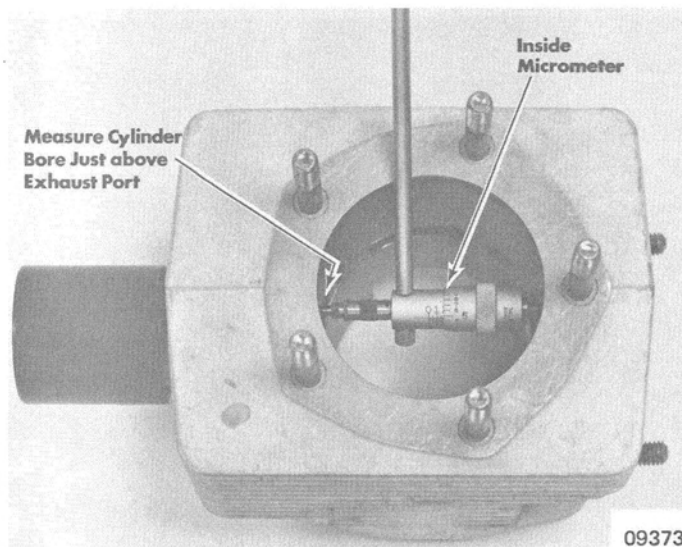

Figure 8. Measuring Cylinder
2. Measure cylinder bore diameter (with an inside micrometer) at top of cylinder bore, JUST ABOVE EXHAUST PORT. (Figure 8) Take measurements at right angles (90°) to each other and check for an out-of-round ("egg shaped") condition.